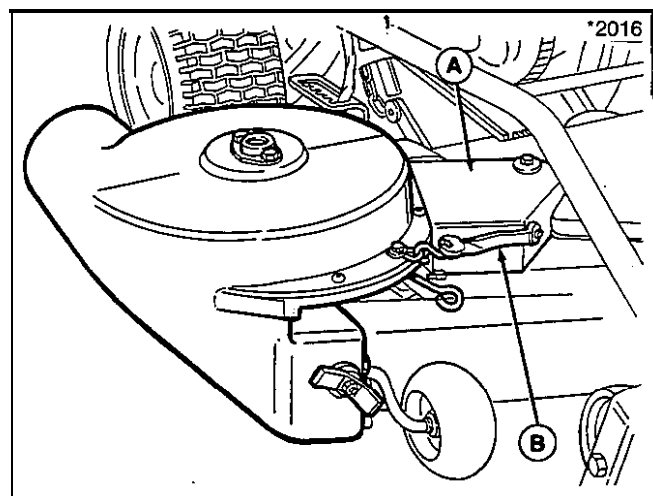

Figure 11.
18. With belt installed, pivot arbor cover (A, figure 11) into position as shown in figure 11. Secure with rubber strap (B) to blower housing.